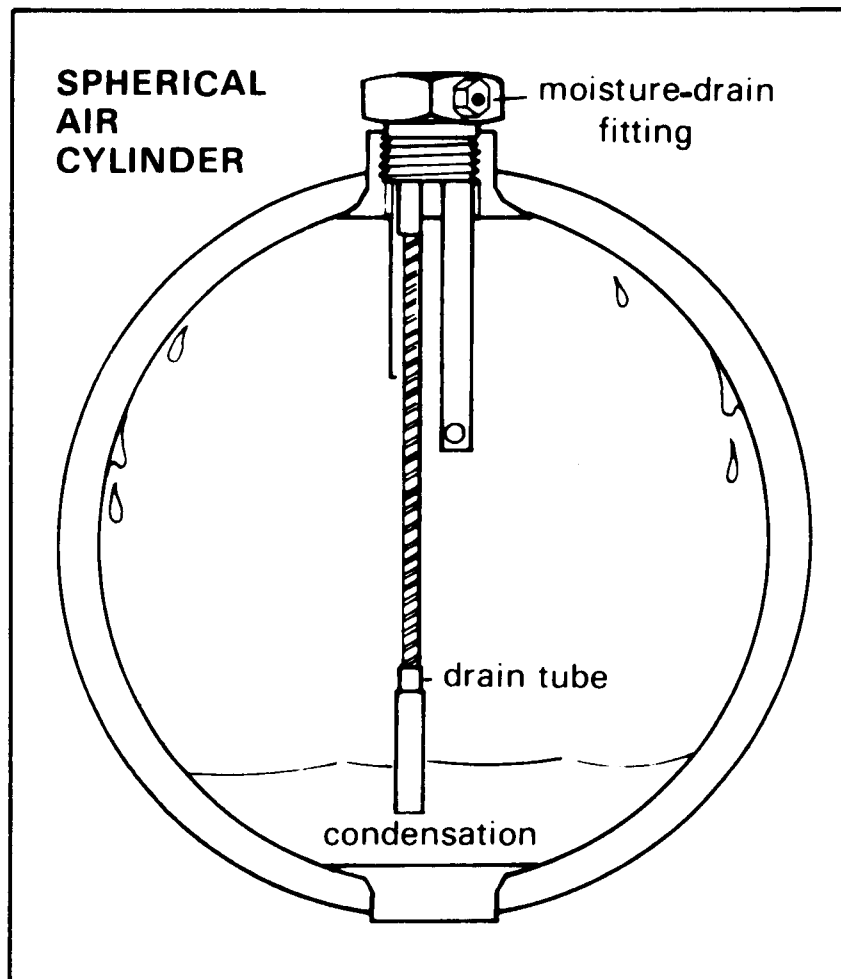

Figure 4-5. Spherical air cylinder.
**Air Cylinders.** Air cylinders are the pneumatic reservoirs in an aircraft's pneumatic system which serve as an emergency source of pressure for the hydraulic system. These cylinders are made of steel and may have a cylindrical or spherical shape. A spherical air cylinder is illustrated in Figure 4-5. Cooling of the high-pressure air in the storage cylinders will cause some condensation to collect in them. Storage cylinders must be cleared of moisture periodically to ensure a positive operation of systems. This is done by slightly cracking the moisture-drain fitting located on the cylinder manifold.